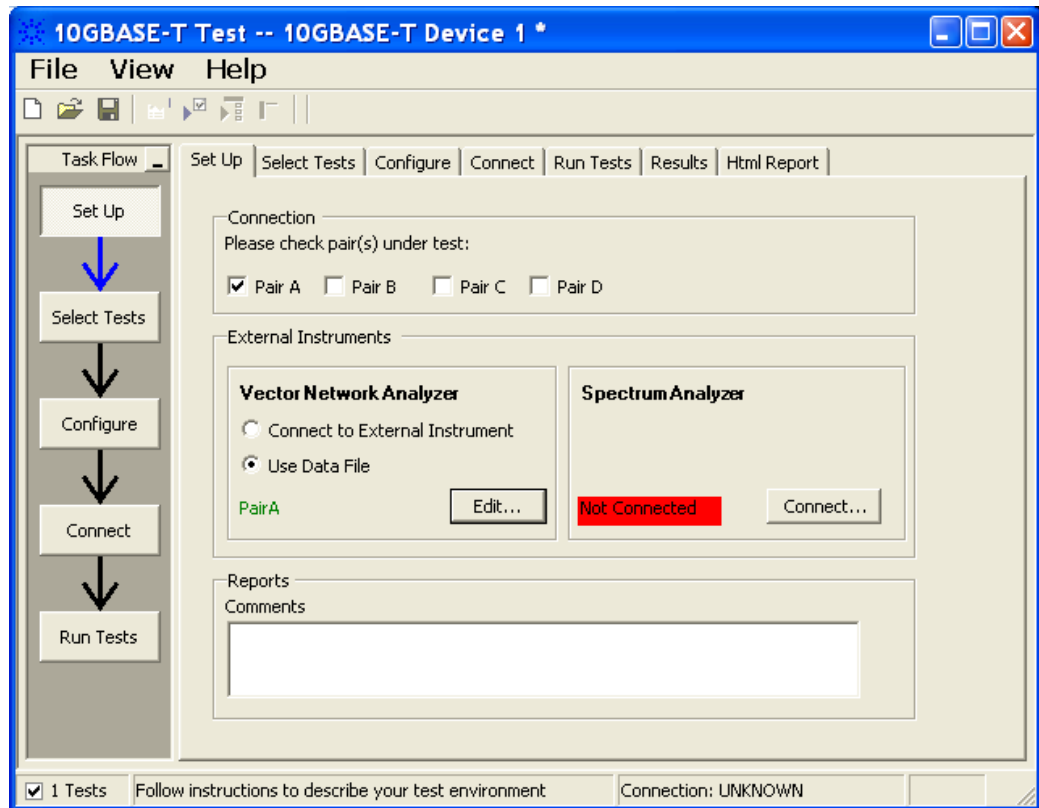

Figure 33 Setup page after application has detected the data file
- 13 Once the application detects the user file, it is indicated on the Setup page as shown in Figure 33 below.